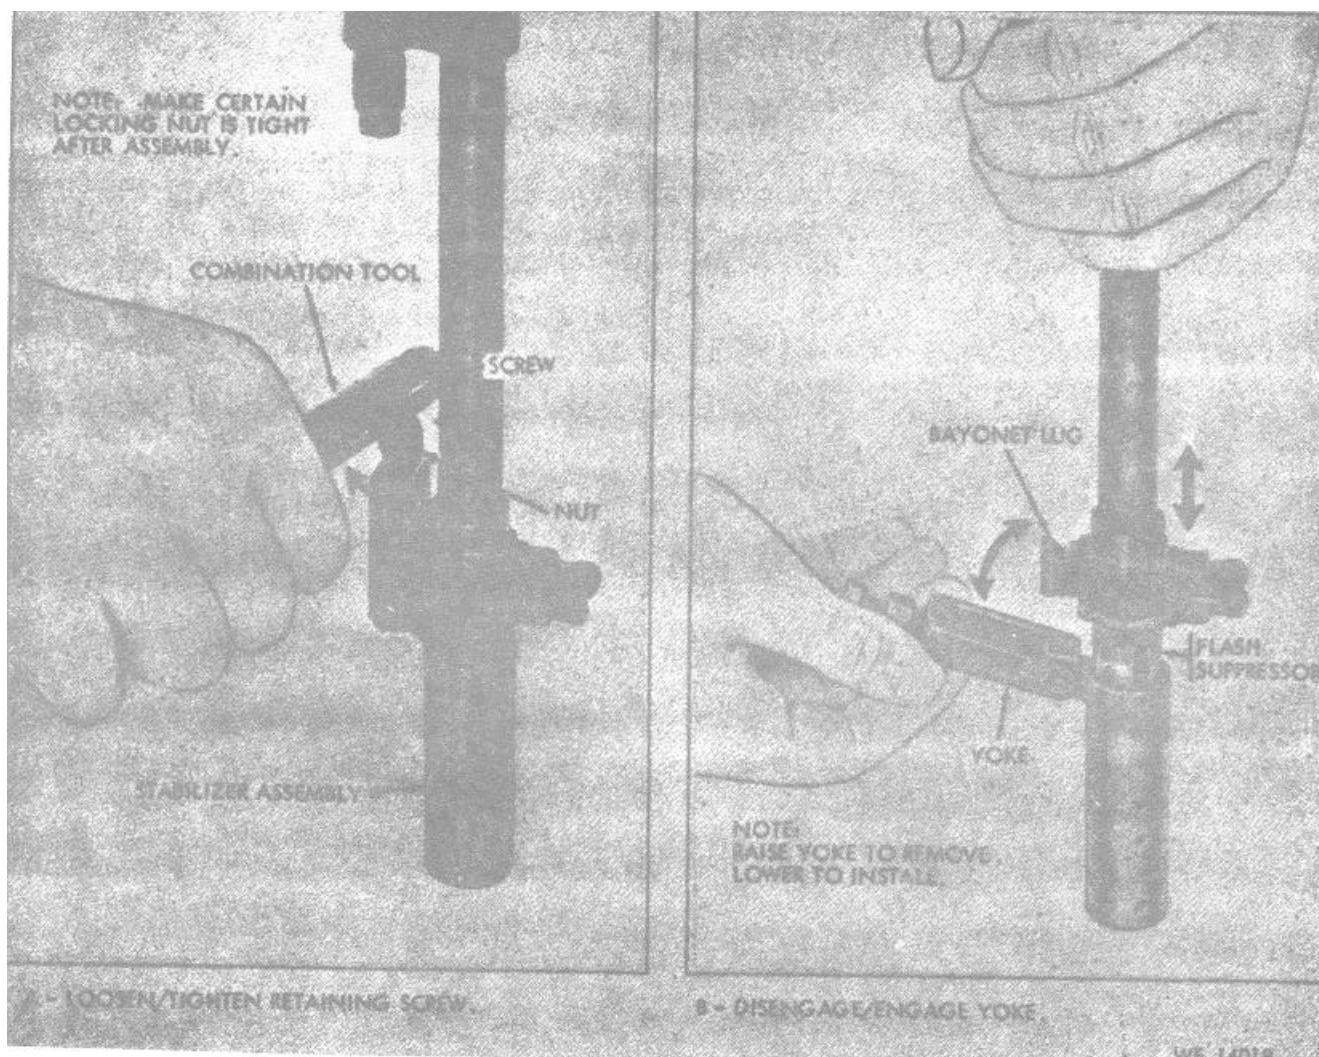

Figure 2-9. Remove/ install stabilizer assembly.
b. Removal/ installation. Refer to figure 2-9 and TM 9-1005-223-10.